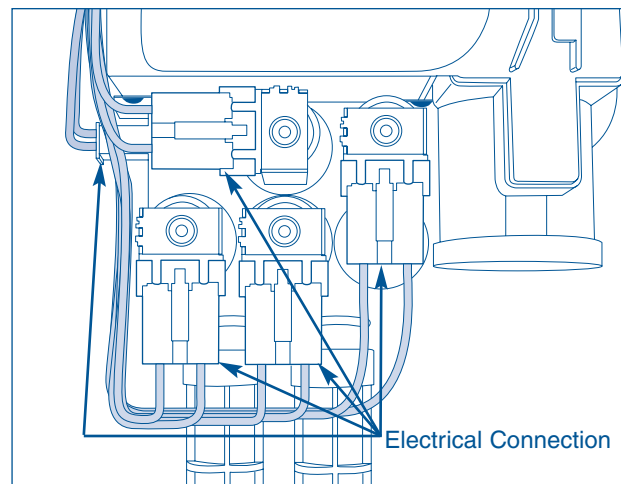

Figure 4-32.
3. Disconnect the wiring harness from the valves and the temperature sensor. (See Figure 4-32)